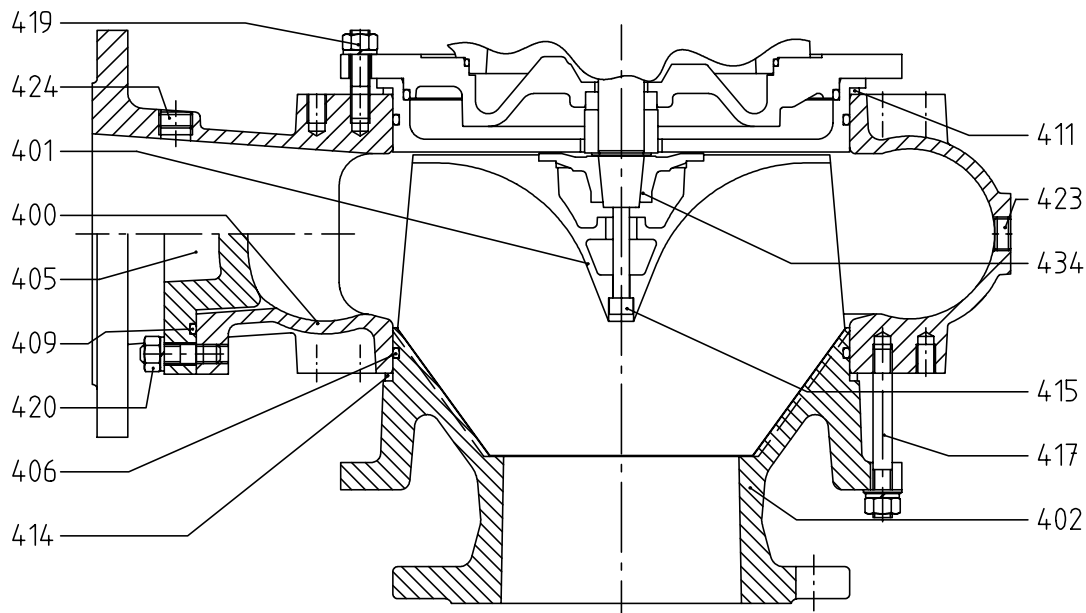

Fig. 6: E05K - L20K
Certain models may have a spacer ring (414) between mating surfaces of the suction cover and the volute casing. When there is excessive wear on the conical surface, the suction cover (402) should be replaced (Fig. 6).
**b) For all other pumps without "regulable" feature (Fig. 6)**